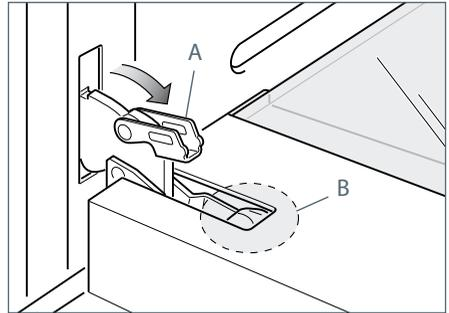

Fig.63b
- 2 Open the lever "A" completely on the left and right hinges (Fig. 63b).